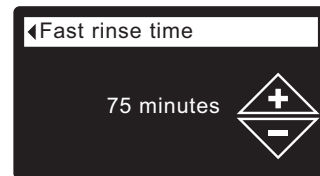

FIG. 77
- 8b. **Fast rinse time:** Press the UP (▲) or DOWN (▼) buttons to change the fast rinse time (aspirate time). Hold the button down to rapidly advance. The fast rinse time can be set from 1 to 99 minutes* (See Figure 77).